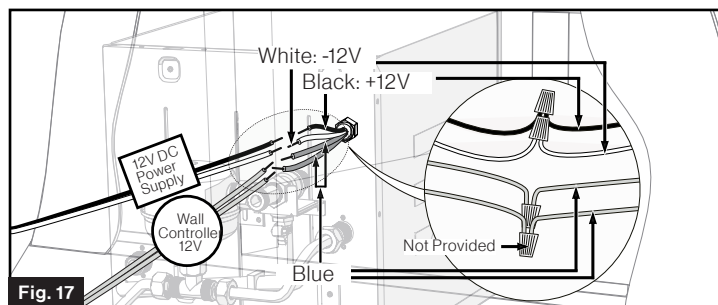

Fig. 17
2. Connect the power supply wires (on rear of water heater - white and black wire) to the appropriate nominal 12V DC power source connection. (Fig. 17)
3. Connect the wall controller wires (2 blue wires on the appliance). (Fig. 17)